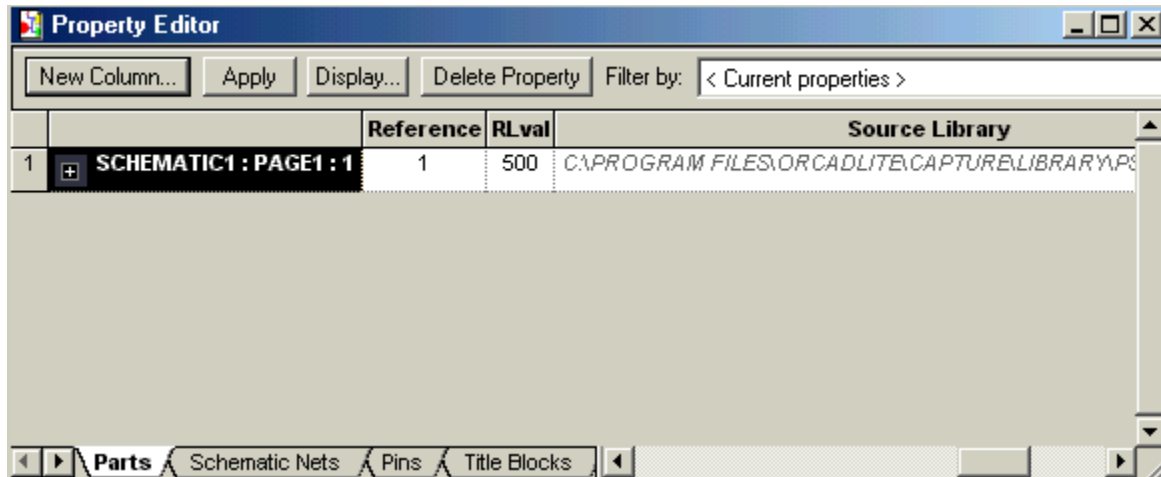

Figure 28. Property Editor window for the PARAM part, showing the newly created RLval column.
- d. You will notice that the new column RLval has been created. Below the RLval enter the initial value for the resistor: lets make it 500, as shown in Figure 28 below.